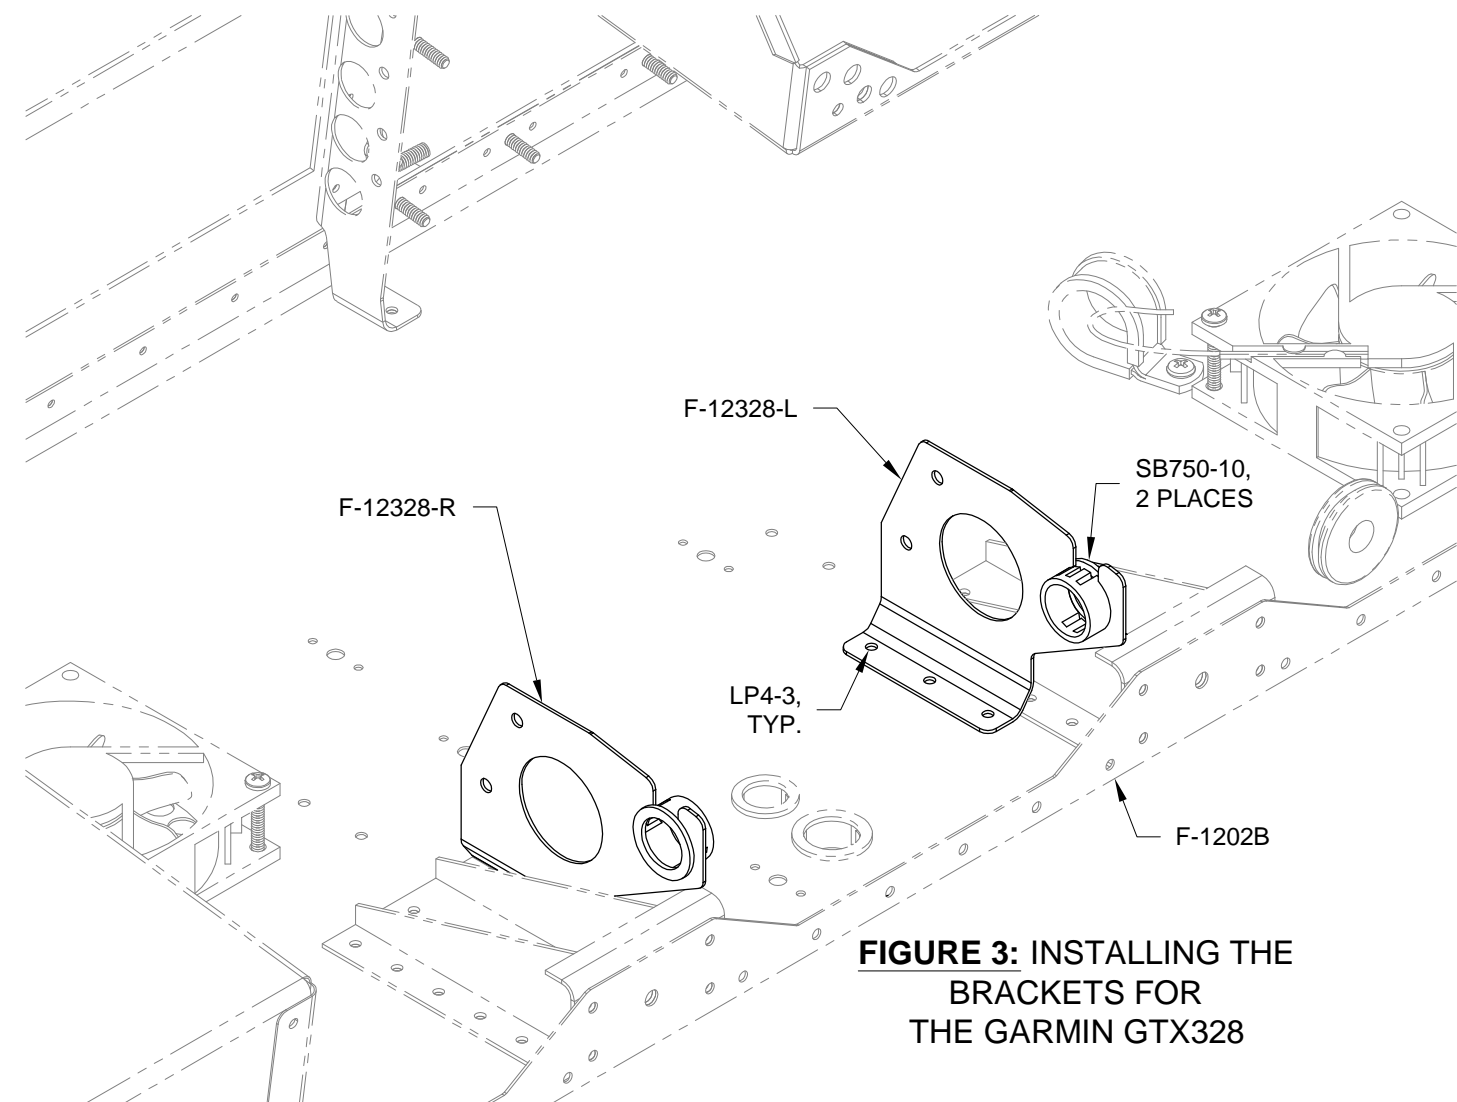

FIGURE 3: INSTALLING THE BRACKETS FOR THE GARMIN GTX328
Step 6: Rivet the F-12328-L & -R Brackets to the F-1202B Panel Base using the hardware called out in Figure 3.
Step 7: Insert the snap bushings from the F-1202K-L & -R Inst Stack Supports into the F-12328-L & -R Brackets as shown in Figure 3.